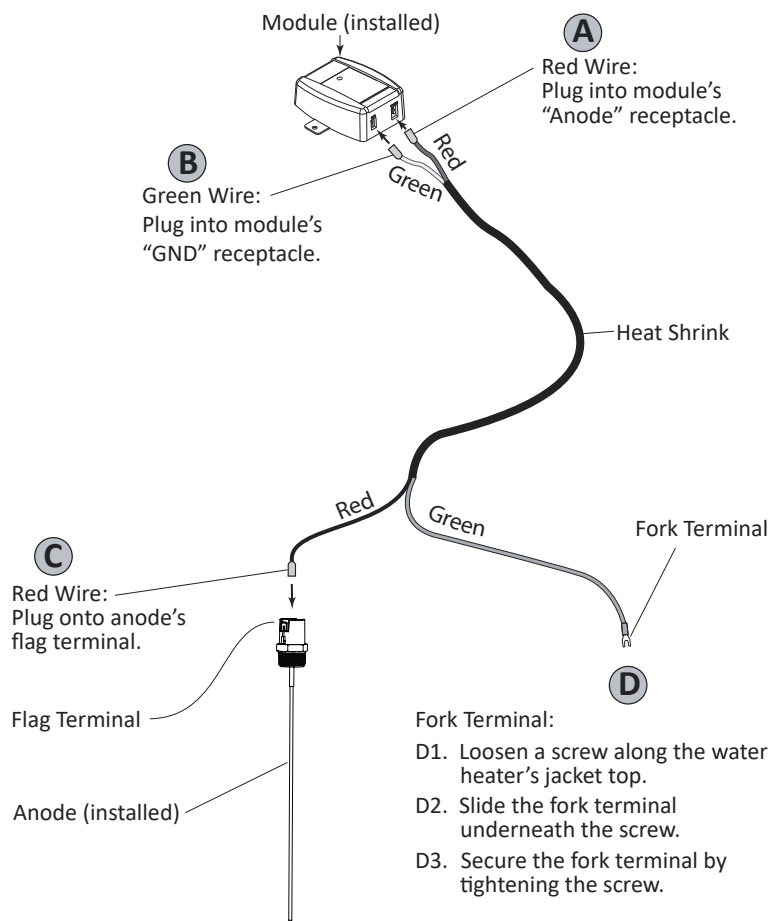
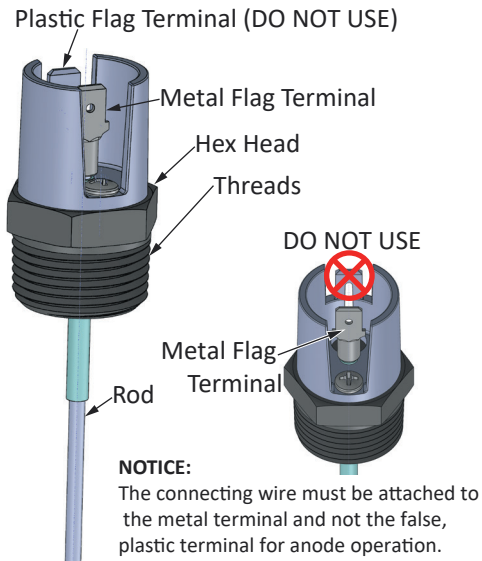

Figure 5. Harness Installation
Figure 6. Top of new anode
- A. Set the control module on top of the water heater. See Figure 5 or Figure 6.
- A. Plug the harness' red wire connector into the module (Figure 5).
- B. Plug the harness' green wire connector into the module (Figure 5).
- C. Slide the wire harness' red wire spade connector onto the anode's flag terminal. See Figure 5 and Figure 6.
- D. Secure the green wire's fork terminal underneath a jacket screw. See instructions in Figure 5 and Figure 8.